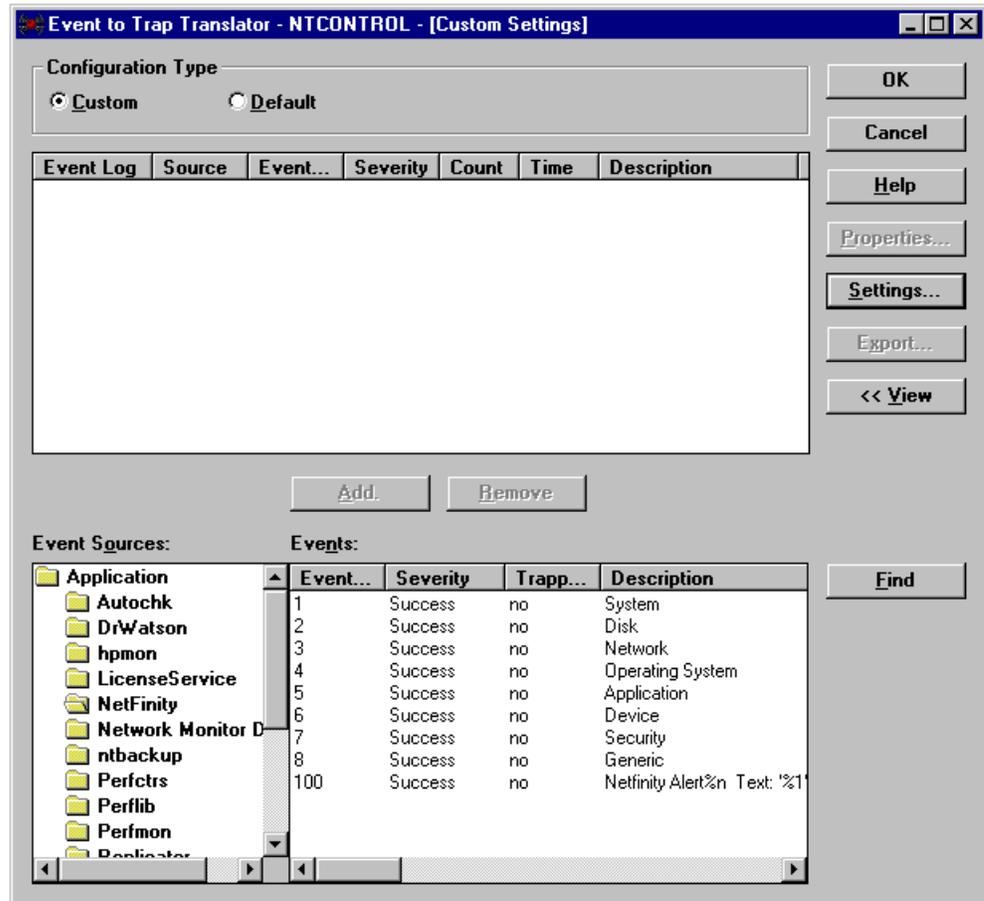

Figure 154. The Event to Trap Translator
5. Select the **Custom** radio button. If you have the correct permissions you will see a window similar to Figure 154 on page 197